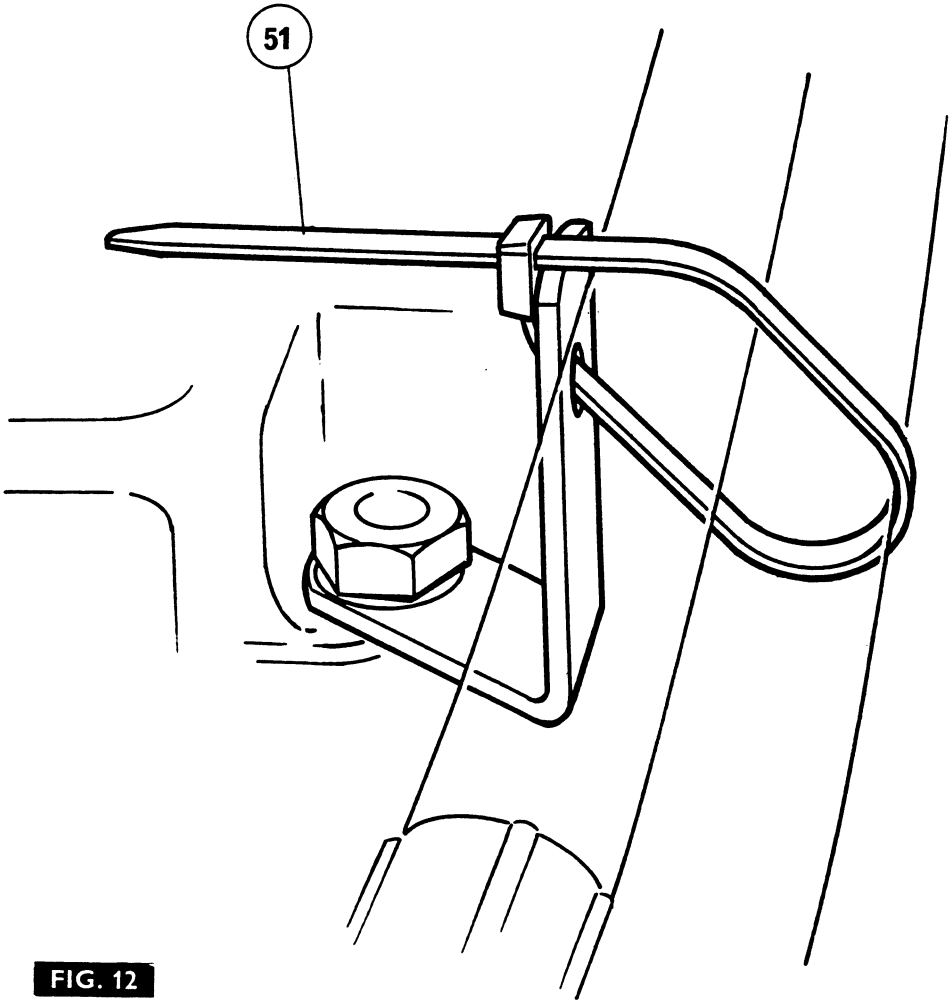

FIG. 12
13. Secure the hoses in pairs to the clamp bracket(s) (47), using the 'U' clamp(s) (49), plus a  $\frac{1}{4}$  UNF x 41 mm (1½ in) bolt (50) and a  $\frac{1}{4}$  UNF locknut (tractors with spring suspension seat only).
**NOTE — IF NECESSARY, BEND THE BRACKET(S) (47) TO ENSURE A STRAIGHT HOSE RUN BETWEEN THE CLAMP(S) AND THE COUPLERS. ALSO, DO NOT CLAMP THE HOSES TIGHTLY, AS THEY MUST BE FREE TO SLIDE IN THE CLAMPS TO PERMIT COUPLING AND UNCOUPLING.**
- 13A. Fig. 12. De Luxe Seat Tractors Only:— Secure the hoses to the clamp bracket(s) with a plastic strap (51).